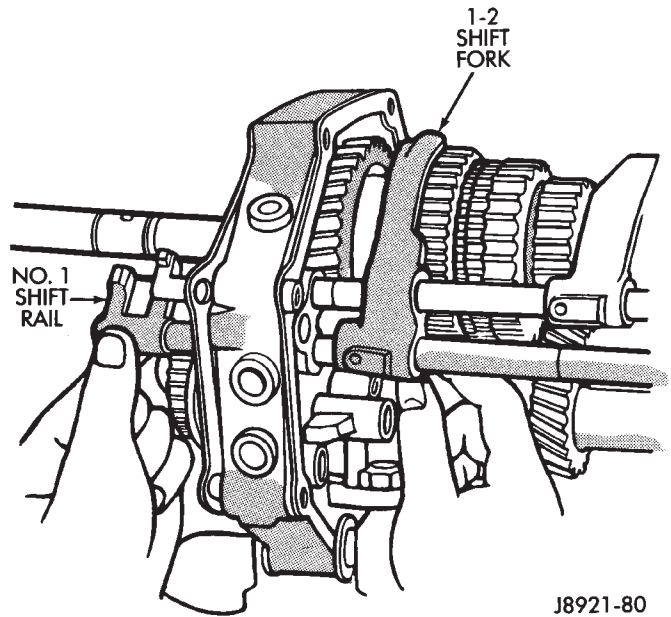

Fig. 73 Installing No. 1 Shift Rail
(8) Slide No. 1 rail through 1-2 shift fork (Fig. 73).